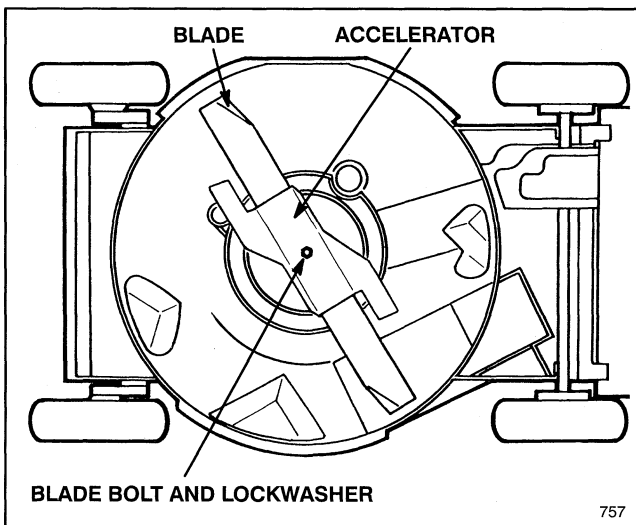

Figure 21
3. Tip mower on its right side (Fig. 21). Avoid rotating blade as starting problems may result.
5. **REMOVING BLADE**—Grasp end of blade using a rag or thickly padded glove. Remove blade bolt, lockwasher, blade accelerator and blade (Fig. 21).